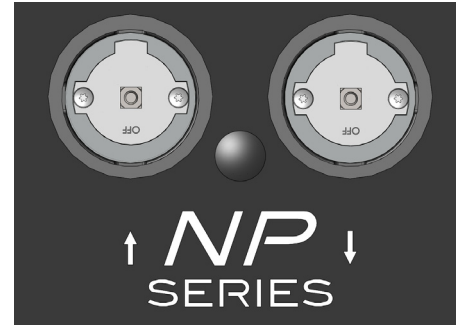

Figure 7: Valve positions for flushing with flush cart. OFF is in 6 o'clock position.
1. Rotate supply and return valves to bypass the tank. OFF should be in the 6-o'clock position on both valve #1 and #2 (Figure 7).
NOTE: Fluid should not enter the NP Series tank during flushing. If it does, immediately stop the flush cart pump and check to be sure the valves are in the correct orientation as shown in Figure 7.